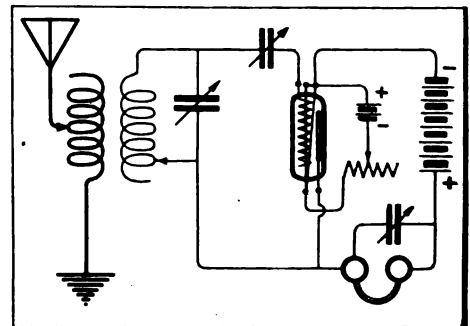
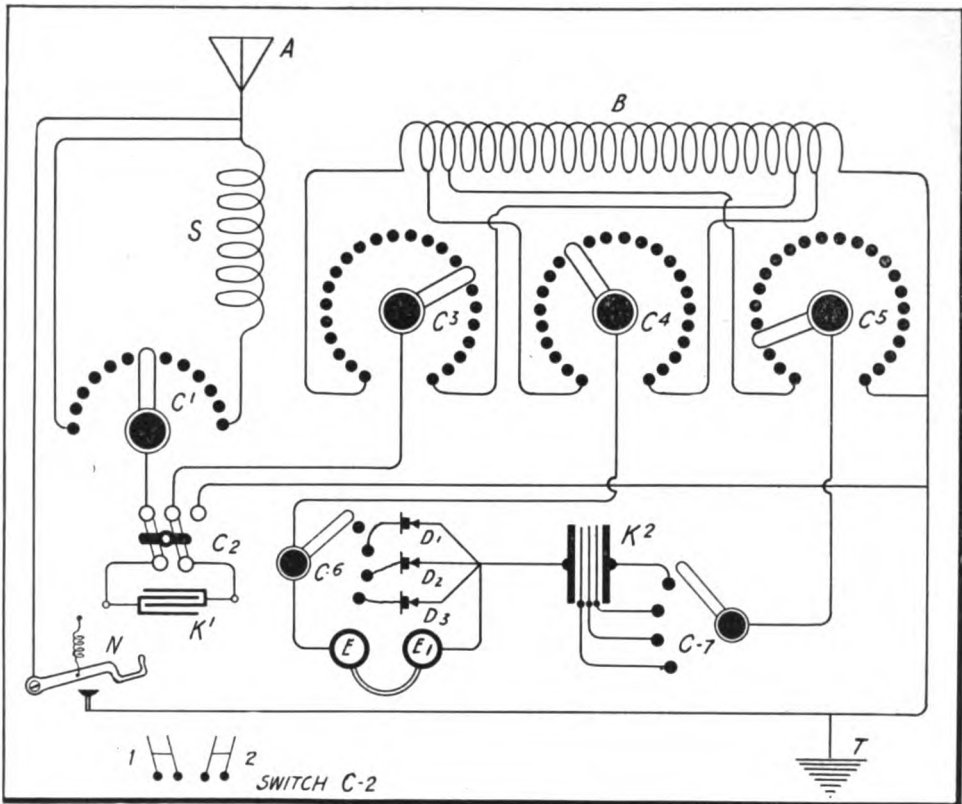

Figure 3—Second prize article
Figure 1—Fourth prize article
shown in detail in Figures 1, 2 and 3. The receiving transformer is not only very small, but it requires no loading inductances and employs but three variable condensers.
Figure 1 shows the general construction of the primary winding which is identical with the secondary winding except the size of the wire. These windings are not arranged to be telescoped, one within the other, but in fact, the tightest coupling is obtained when the windings are "end on."
The end supporting blocks are $\frac{1}{4}$ th-inch stock, 5 inches square, which are fastened to the cylinders with $\frac{1}{2}$ -inch oval headed brass screws. The constructor should drill a small hole through each tube at the bottom of every groove to admit a tap connection, as shown by dotted lines in Figure 1.
As shown in Figure 1, the switch is made of copper with a piece of hard rubber riveted to the under side on one end. Care should be taken to have the rivets well towards the center so that they do not come in contact with the clips.
The standard on which the blade is fastened is made of hard rubber and is bolted to the blade with two brass bolts, as shown in Figure 1. As can be seen from the diagram, the shaft is fastened to this standard in a way that it will not touch the blade.
The clip for the receiving side of the switch is shown in Figure 3. It is built exactly like the high tension clip with the exception that no insulation is required between the two sides. The standard on which the clip is mounted is of hard rubber and instead of a section of hard rubber being placed in between the two clips, a piece of copper is used. They are held through the switchboard by means of $\frac{1}{8}$ th-inch bolts.
Readers desiring to construct a receiving set fitted with a crystal detector will probably be interested in the design I herewith propose. The accompanying drawings represent an apparatus having the unquestionable advantages of selectivity and sensitiveness, both of which are important characteristics of a compact receiving tuner. As will be observed in Figure 1, the set includes the aerial, A, the loading coil, S, fitted with a 12-point switch, C1, and one variable
It is attached in the fashion as shown in Figure 3. The connections from the various plates of the condenser are clearly shown in Figure 1.
The condenser, K-2, may be of fixed capacity, but to obtain the very finest adjustment of the circuit, it is preferable to have it adjustable in steps as by the switch, C-6. This condenser is constructed of five sheets of tinfoil, 3 5/8ths inches by 4 inches, between which are placed sheets of paraffin paper, about 4 by 4 1/2 inches. The entire condenser, after being properly assembled, is placed between two small blocks of wood and secured together as shown in Figure 3.
protect the apparatus from lightning discharges. The details of this are shown in Figures 1, 4 (G) and 5. The indexes for the switches can be made on white celluloid.